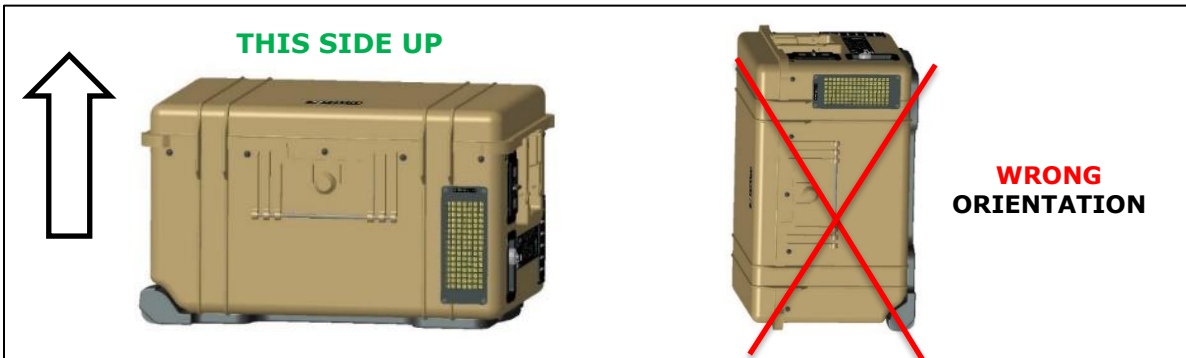
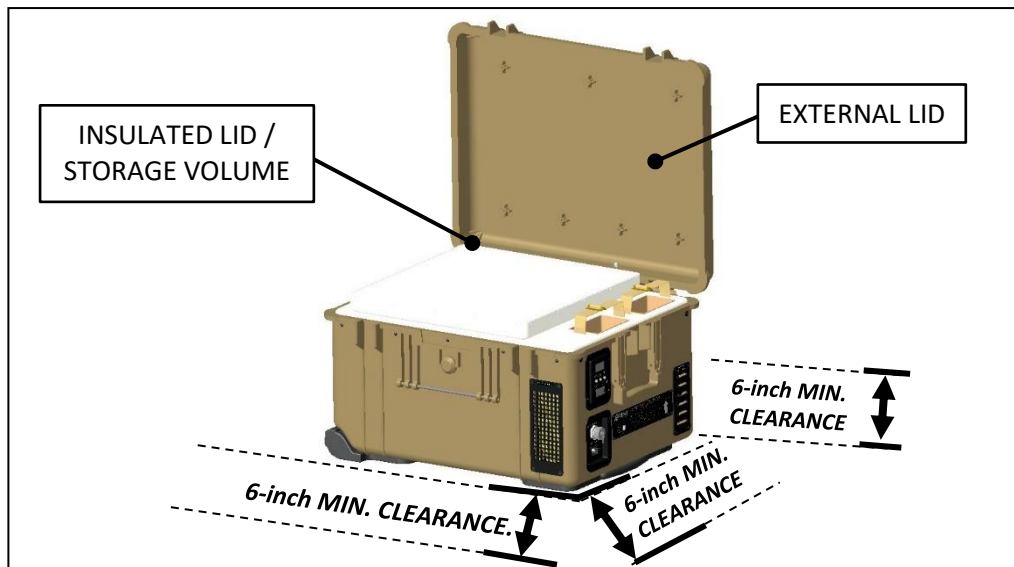

Figure 5: xFridge Operational Orientation
Figure 6: xFridge Setup
- 1) Place xFridge on a level surface with the External Lid facing UP (See Figure 5 and Figure 6).
- 2) Ensure there is at least 6 inches of clearance in front of the Air Intake (front) and Air Exhaust (right and back) as shown in Figure 6. Do not operate in an enclosed space that does not provide ventilated air.